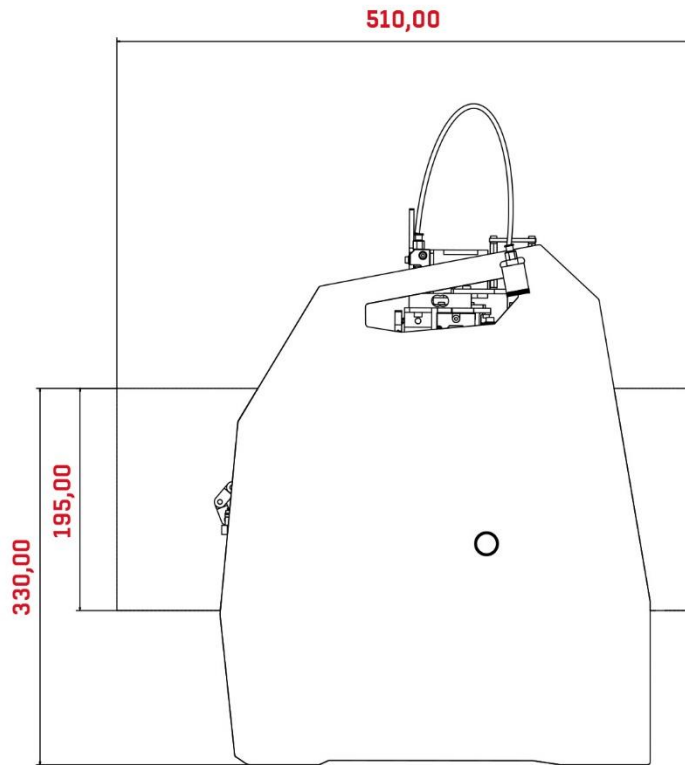

Fig. 4 The maximum dimensions of the printer taking into account the extreme positions of the heatbed – right side view
- ensure sufficient free space around the printer based on the printer's external dimensions and working range of the axes (fig. 4, 5),